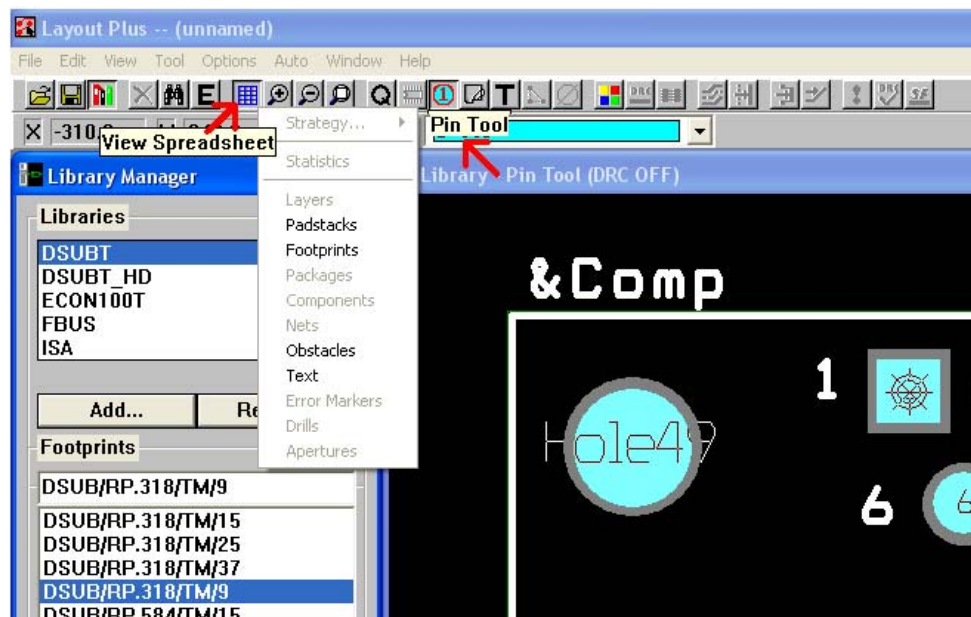

Figure 2.3: Library Manager: Spreadsheet and Pin Commands
The Library Manager is seen in Figure 2.3 below. A library's footprints are displayed in the footprints list by selecting the specific library from the Libraries list. Two important icons: *View Spreadsheet* and *Pin Tool* are highlighted. We will use the Spreadsheet icon to activate the Padstacks spreadsheet. The Pin Tool icon will be selected in order to select the footprint's pads.
9. Click → **Pin Tool icon** (See Figure 2.3)
11. Click → **View Spreadsheet icon | Padstacks** (See Figure 2.3)
14. Click → **Tool | Measurement | Select Tool** (See Figure 2.3)